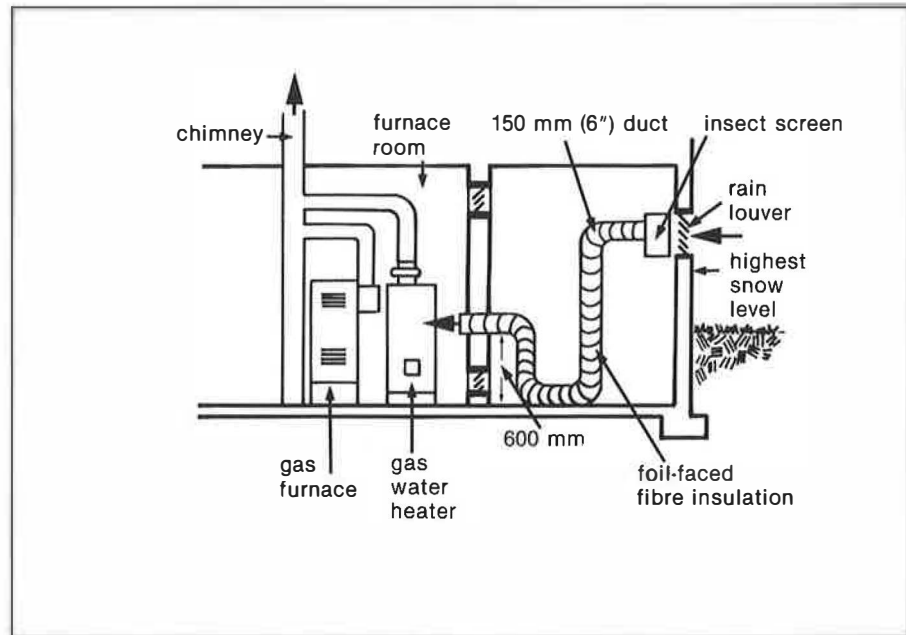

Fig. 18. Typical air supply for furnace and hot water heater.
- Treat each fuel-burning appliance as a closed system with a separate supply of combustion air from the exterior (fig. 18). The industry is in fact moving toward the use of sealed combustion devices. **Note:** Codes do not allow for exterior air to be supplied directly to a burner or to dilution air unless a furnace is specifically designed for this.